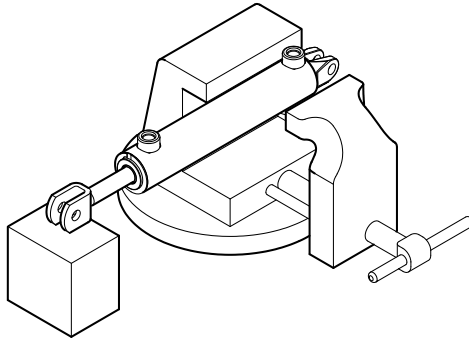

Figure 5-4, Cylinder Vise
2. Clamp the cylinder lightly at the base end in a soft jawed vise. Use a block or other support under the rod end of the cylinder. (Figure 5-4)